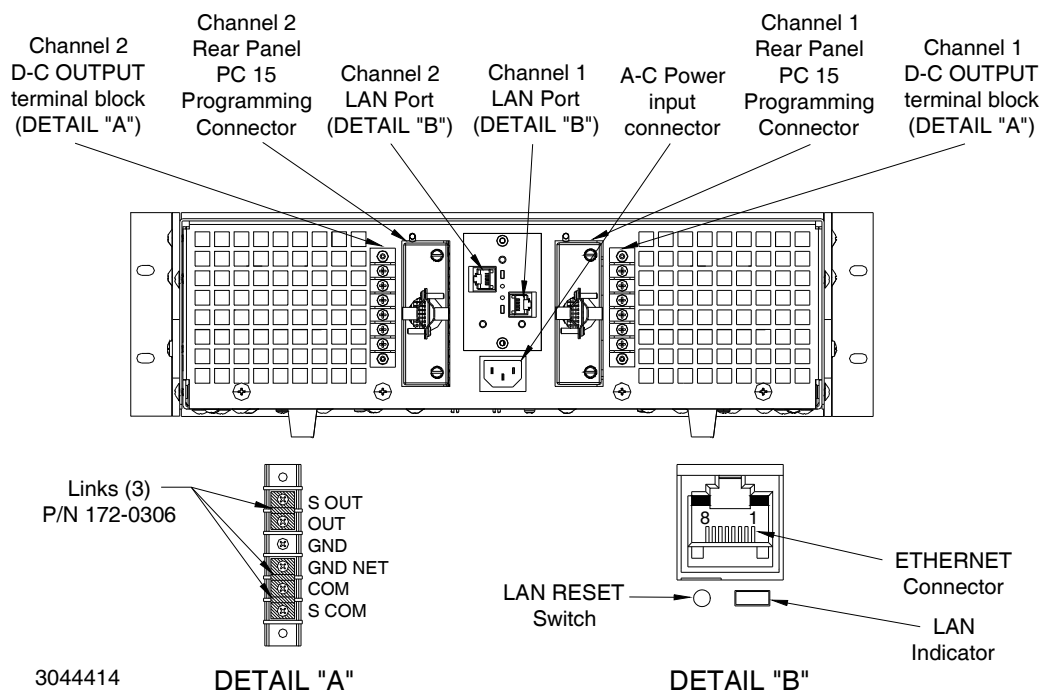

FIGURE 8. BOP 2X-DE SERIES REAR PANEL TERMINATIONS
1. Connect a BOP 2X-DE channel to a network via the LAN Port (see Figure 8). Use either a standard ethernet cable if using a HUB, or a crossover LAN cable if connecting the channel directly to a computer. The LAN interface is not Auto-MDI-X enabled and requires the crossover cable.